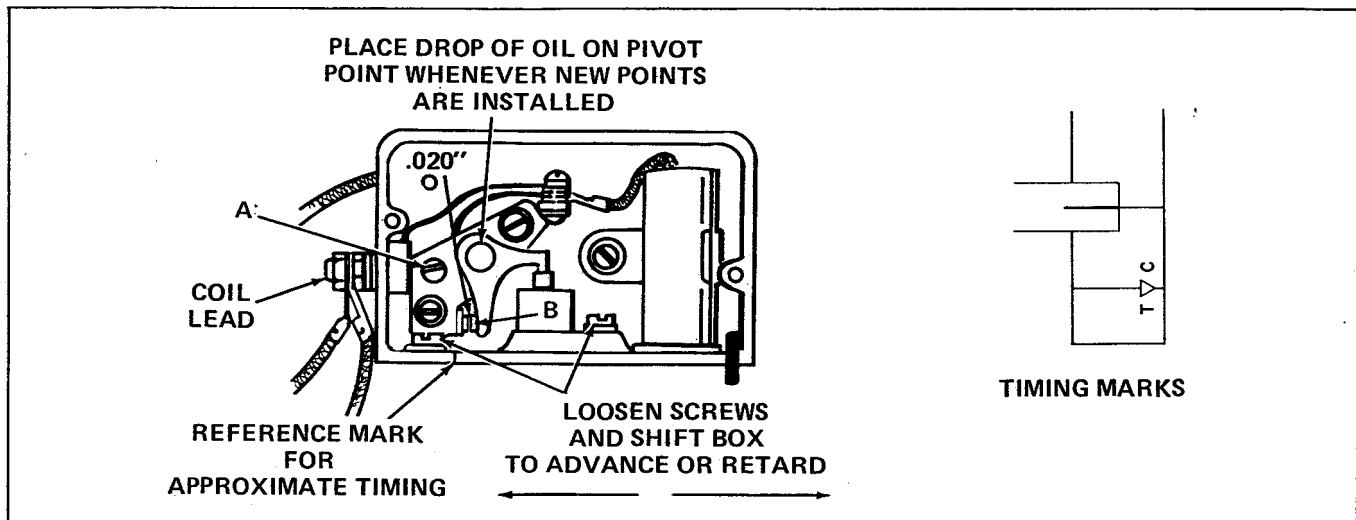

Figure 35. Engine Timing
3. Raise oil cooler and rotate engine until points (item B, figure 35) are fully open. Then adjust screw (item A) so gap between points is .020 inch (.508 mm).
4. Rotate engine until timing marks on frame and front PTO clutch are aligned as shown in figure 35.
5. Connect a 12 vdc continuity test lamp across the breaker points. One test lamp lead should be connected to the coil lead shown in figure 35 and the other should be connected to a good ground on the engine.